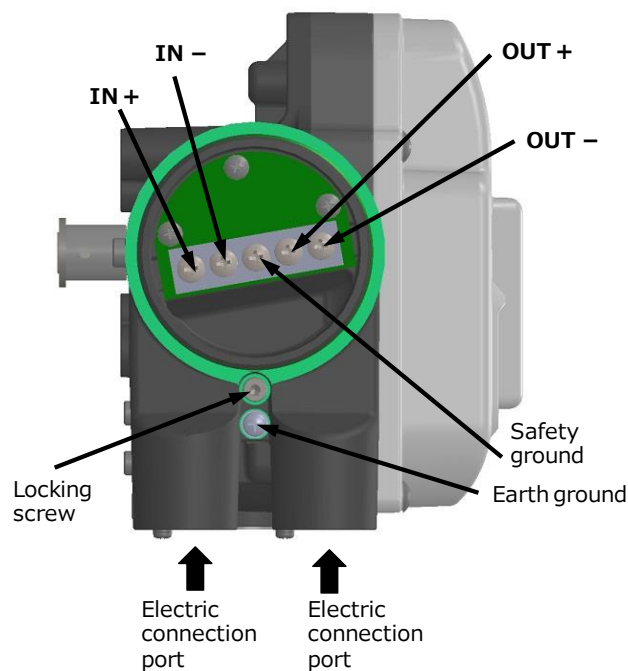

Figure 1.4a Wiring connections and terminals
5. As illustrated in figure 1.4a, two ground terminals of a safety ground and earth ground are available. The safety ground and earth ground are electrically identical. Make wiring connections according to local electrical codes which apply to the application.